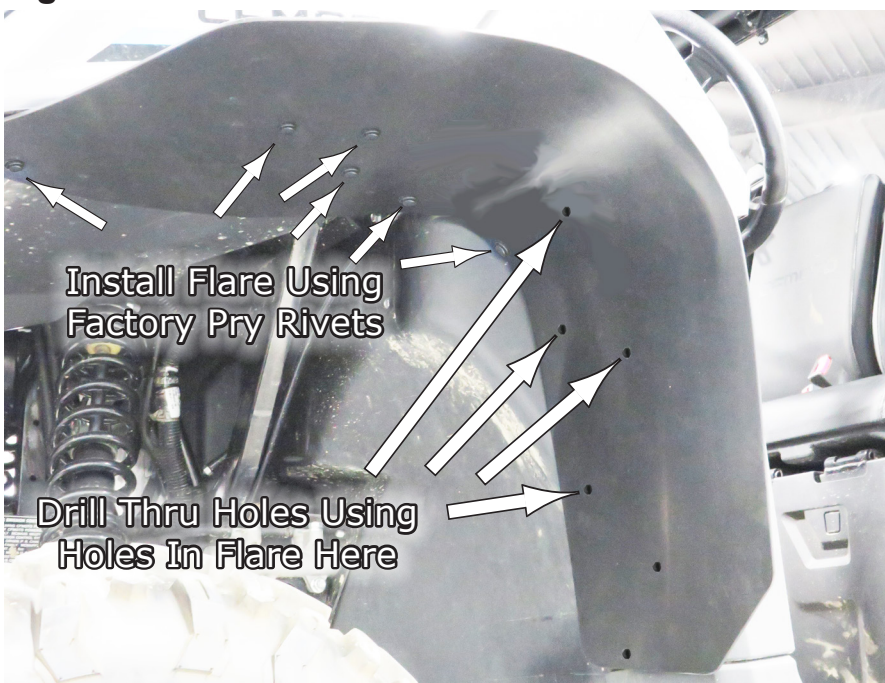

Fig.2
2. After the Rivets are removed, now install the new Flare using the factory Pry Rivet holes and pins, starting from the FRONT working towards the back. You will stop at the bend in the Flare as shown in **Fig.2**. Now you need to drill some holes using the Drill Bit provided in your kit, using the Flare as a guide. So drill thru each hole where there is a hole in the Flare as you will be installing Pry Rivets in those locations. See **Fig.2**.